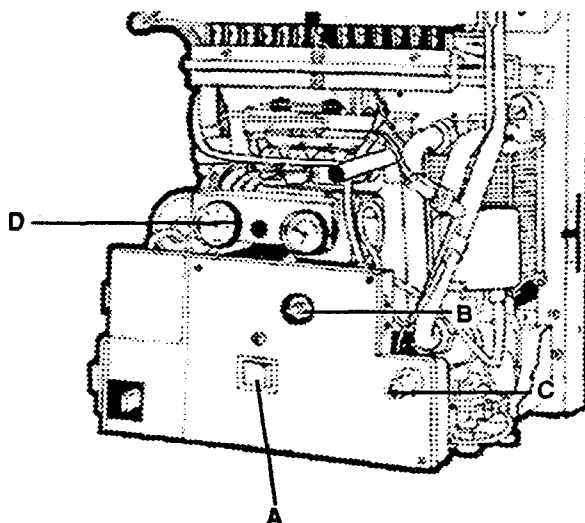
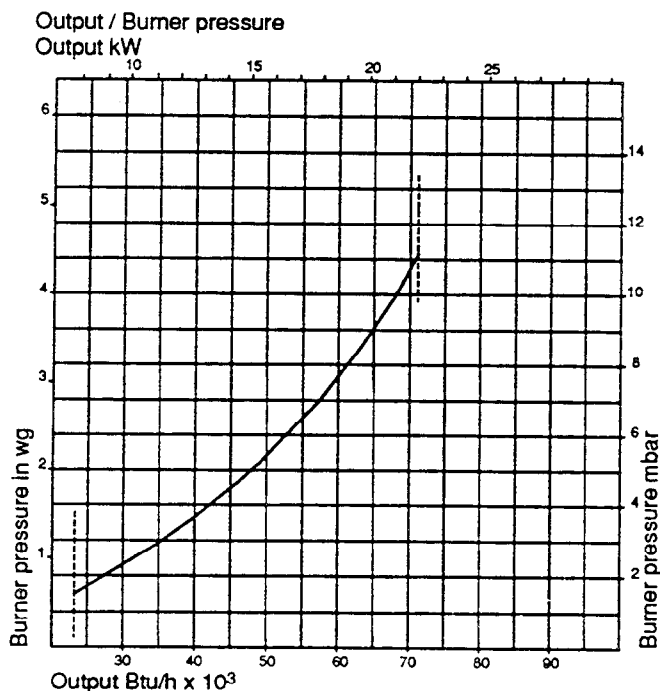

Fig. 35
Fig. 37
- 8) Manually check pump is free to rotate. Remove ca (fig. 35 D).
- Insert small electrical screwdriver (3 mm blade), locate in slot in pump shaft, rotate clockwise to ensure that pump is free replace cap (D).
- 9) Switch to **HOT WATER + CENTRAL HEATING** on selector switch (A) (fig. 35) switch position (II).
- 11) Isolate water supply and drain boiler by disconnecting fill system and opening the drain valve (F). This is incorporated in the safety valve and is achieved by screwing down the head until the valve lifts. Open all low level drain cocks.
- 12) Remove filter in the return isolating valve (C) and inspect for any installation debris, see section (7.6) to clean and replace.
- 3) With yhe left hand, push in the pilot button (fig. 35 D) with the right hand push the ignitor button (fig. 35 C) When the pilot light is established, hold the pilot button pushed in for 30 seconds.
- 3) Temporarily locate the temperature control 'knob - and turn to maximum setting (fig. 35 B).
- 4) Switch to **HOT WATER + CENTRAL HEATING** (II) on the selector switch (fig. 35 A).
- 1) Switch boiler to the off (O) central position, see section 6.3 (fig. 35).
- 2) Remove the pressure test point screw - (B) and connect a suitable pressure gauge.
- 3) Remove the hexagonal cap from gas rate adjuster exposing the adjusting screw (C).
- 4) Switch the boiler to hot water and central heating (II) and check that any fitted external controls are calling for heat.
- 5) Adjust. Setting pressures are given in graph figs. 37 and 38. The pressure will be reduced by clockwise movement of screw, increased by anticlockwise movement. Now select hot water only, adjust temperature knob, see fig. 4 (25), to minimum and open the largest volume draw-off tap. The gas pressure should now be the maximum as indicated in Technical Data.
- 6) Switch boiler off (O). Remove pressure gauge and replace test point screw and gas rate adjuster hexagon cap. Check for gas soundness around screw.